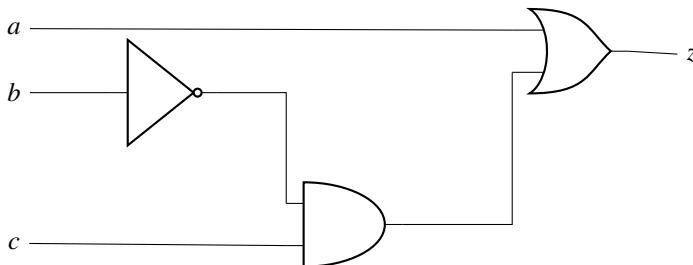

Fig. 4.31
56. Consider the Boolean function $Z(a, b, c)$. Which one of the following minterm lists represents the circuit given below in Fig. 4.31?